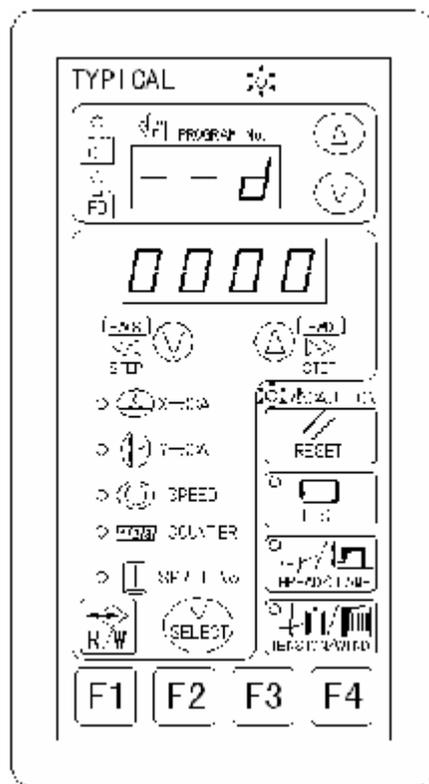

Fig. 6-8
1. In sewing speed set-up interface, simultaneously press  or  key to enter drafting mode, with operation panel as shown in Fig. 6-8, presser foot frame is pressed downward, then X/Y axis motor returns to origin, at the time press  and  key and exit the drafting mode, and lift the presser foot frame.